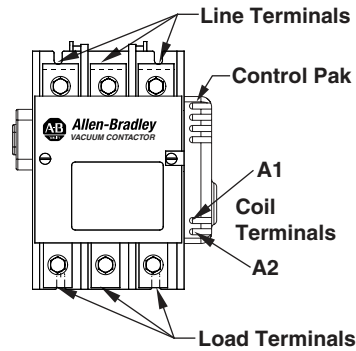
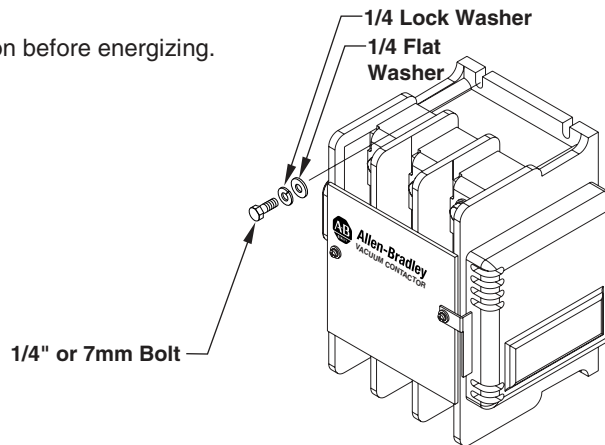

Figure 1
Figure 2
1. **Figure 1** illustrates the field terminals for line and load terminations. Mount the contactor with the hardware specified in **Figure 2**. Loosely install the (4) mounting bolts into the intended mounting surface. Torque the mounting bolts to 50-75 lb-inches.
3. Using 75°C wire copper cable, connect the line and load conductors to the main terminals (**Figure 1**) and proper phase rotation, tighten the main terminal bolts to 132 lb-inches torque.